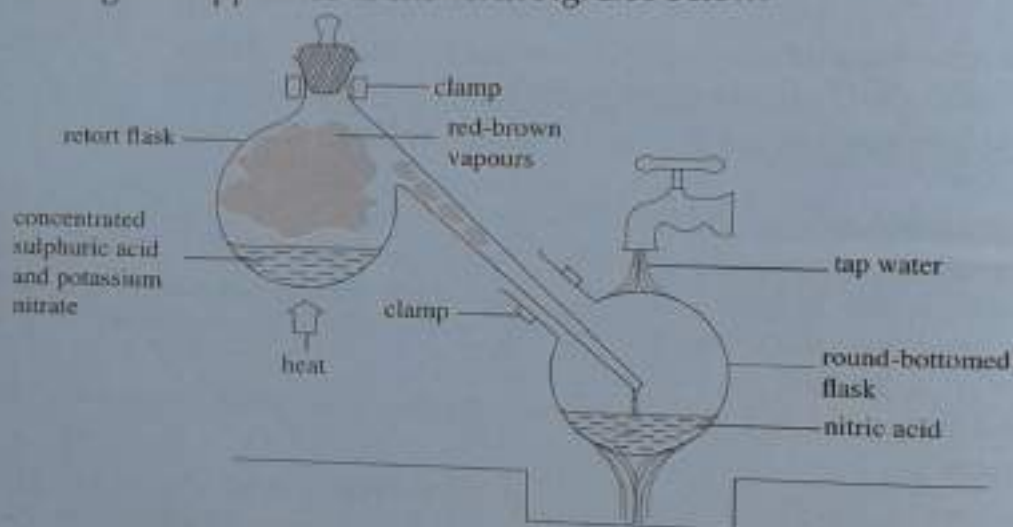

Fig. 2.10: preparing nitric acid
1. Arrange the apparatus as shown in Fig. 2.10 below.